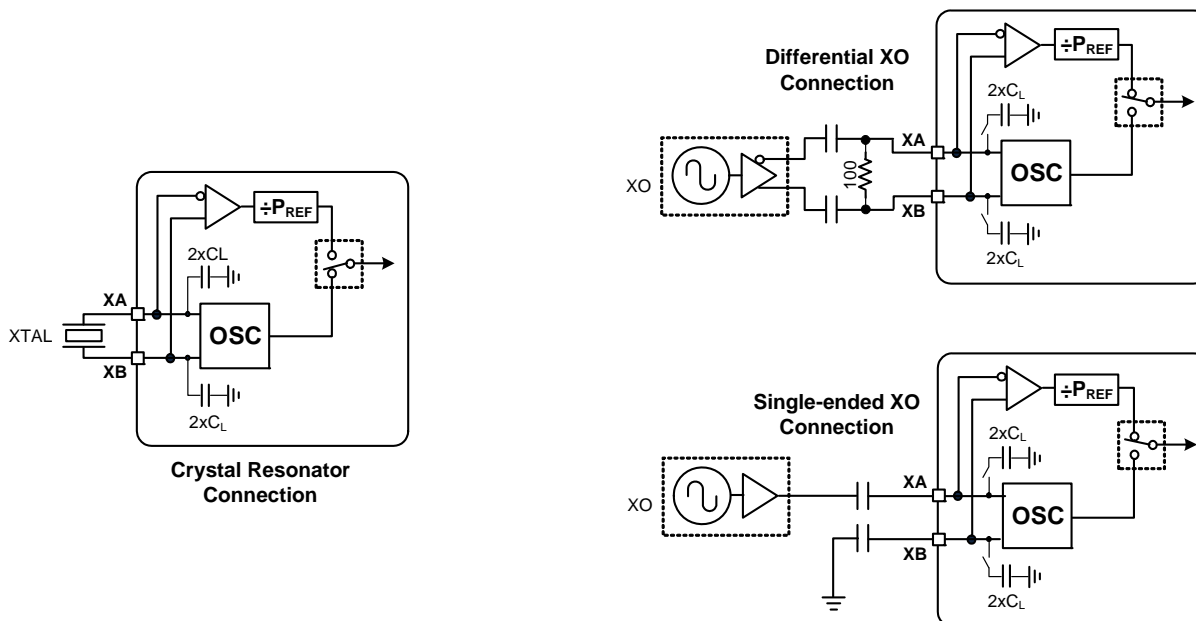

Figure 7. Crystal Resonator and External Reference Clock Connection Options
The Si5341/40 can also accommodate an external reference clock (REFCLK) instead of a crystal. This allows the use of crystal oscillator (XO) instead of a XTAL. Selection between the external XTAL or REFCLK is controlled by register configuration. The internal crystal load capacitors (C_L) are disabled in the REFCLK mode. Refer to Table 3 for REFCLK requirements. Both a single-ended or a differential REFCLK can be connected to the XA/XB pins as shown in Figure 7. A P_{REF} divider is available to accommodate external clock frequencies higher than 54 MHz. Frequencies in the range of 48 MHz to 54 MHz will achieve the best output jitter performance.